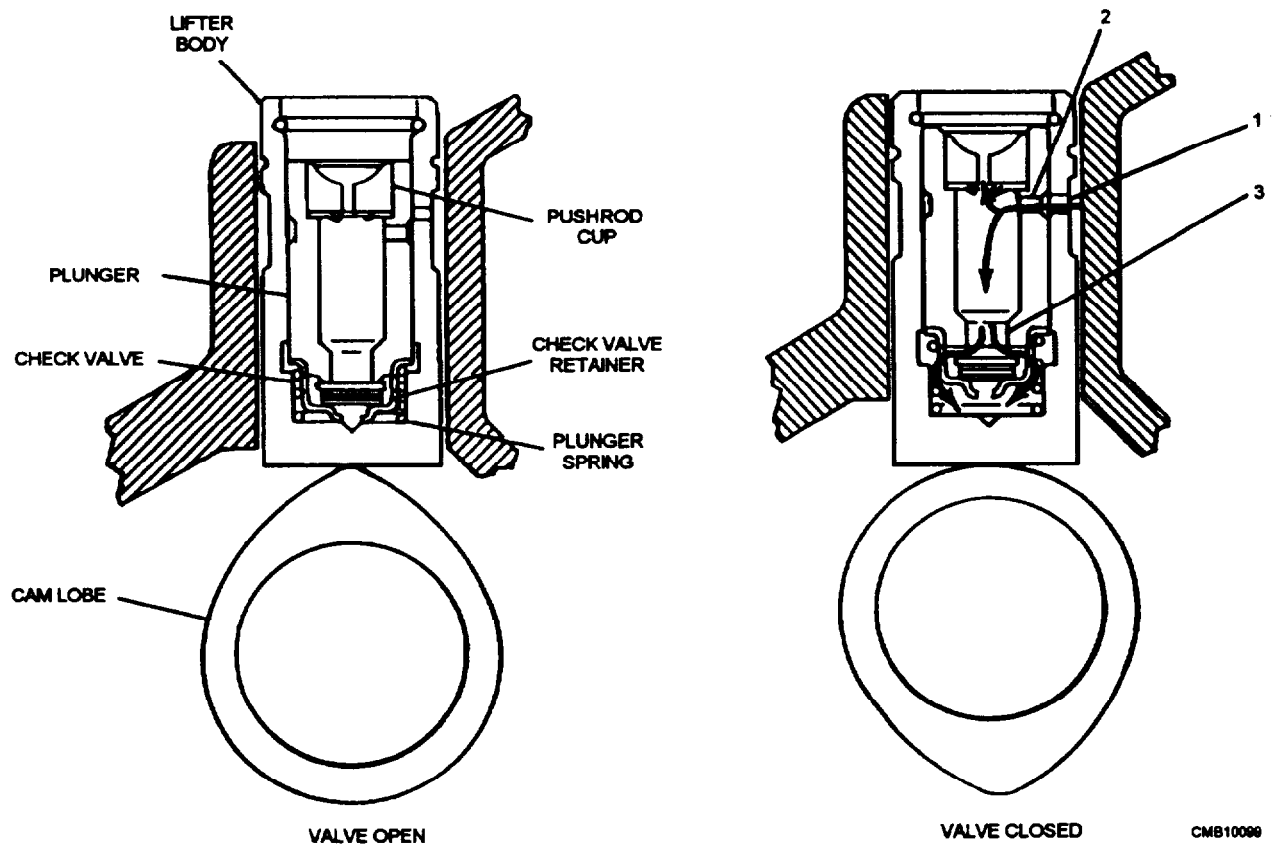

Figure 3-48.—Hydraulic tappets.
HYDRAULIC tappets are very popular in overhead valve engines. They use oil under pressure to maintain zero clearance in the valve mechanism automatically. The lifter body, which contacts the camshaft lobe, is hollow. Inside the lifter body, there is a plunger that operates the valve mechanism. Injecting oil into the cavity under the plunger regulates its height, thereby adjusting valve mechanism clearance. The hydraulic lifter operates as follows (fig. 3-48): oil, supplied by the engine lubrication system, reaches the lifter body and enters it through passage (1). The oil